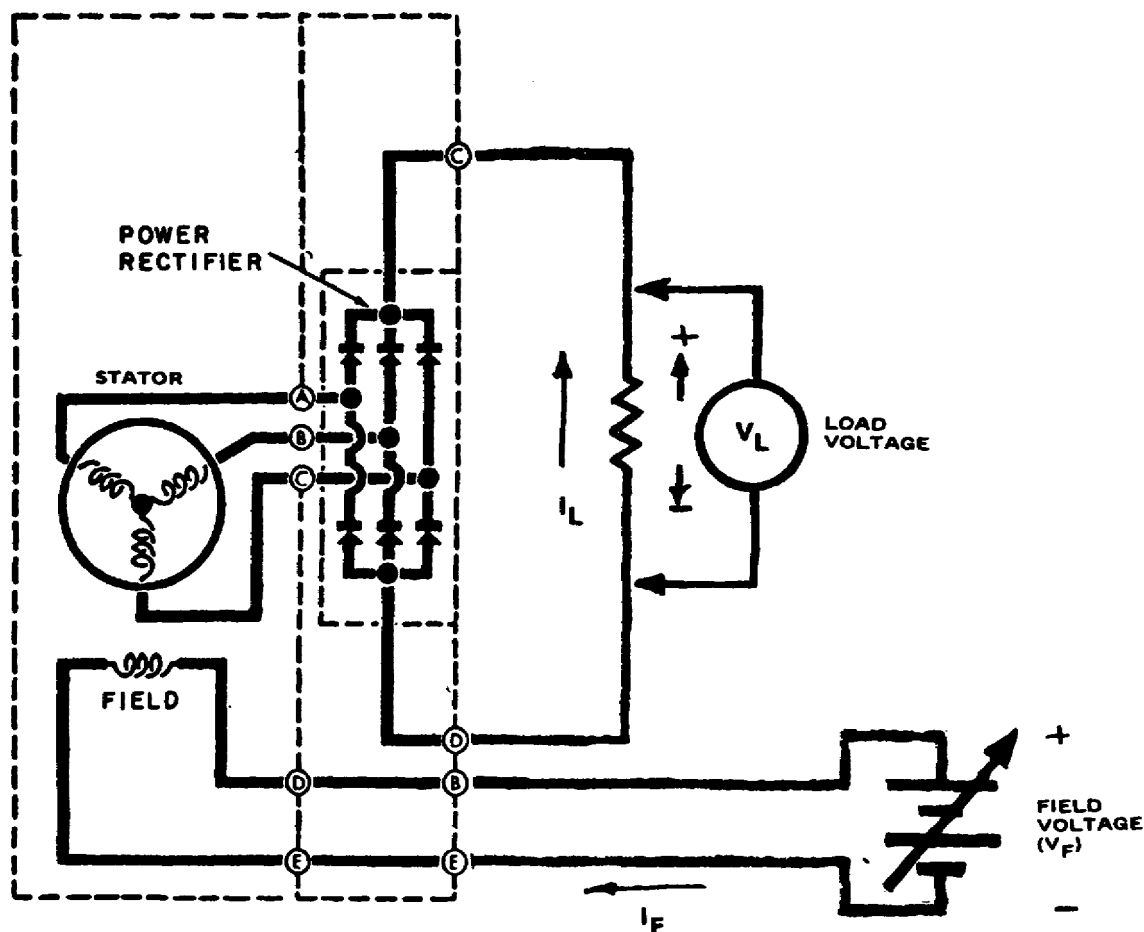

Figure 3. The generator.
2. RELAY REGULATORS. There are several ways of regulating generator output, but the most common way is to regulate the field current. Figure 3 shows a typical generator where the field current is controlled by a variable field rheostat. The output voltage to the load could also be manually regulated by adjusting the variable field resistance. The controlling action would be as follows: